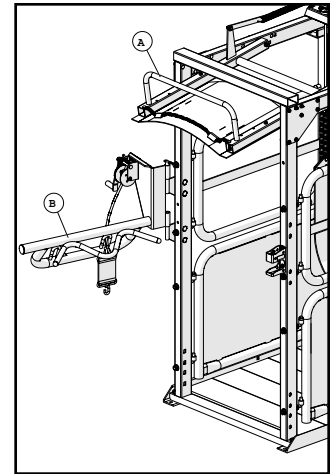

Figure 2: Back stop and rear leg lifter
2. The back stop (a) and rear leg lifter (b) must be in the open position as shown (Figure 2).